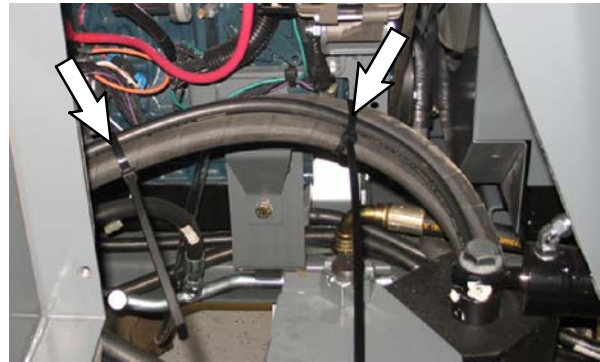

FIG. 3
6. Route both hydraulic hoses (1) toward the hose clamp located on the inner side of the operator compartment and use two cable ties (2) to secure the hydraulic hoses to the other hose they are routed near. Refer to Fig. 3.